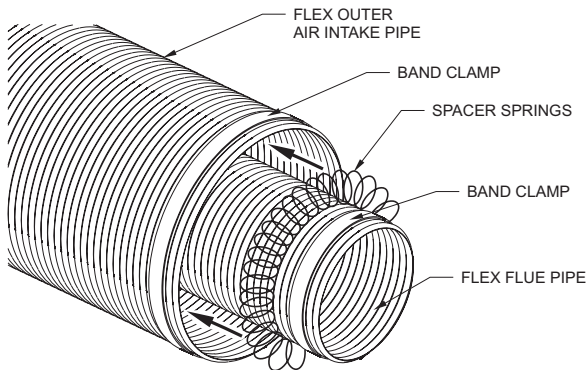

Figure 70
6. Locate the inner flex vent (which has a pre-assembled flue collar connector) and attach the spacer springs by interlocking ends of the springs about 2 inches. The springs should be spaced evenly apart starting at 12 inches from the fireplace flue collar. **See Figure 70.**